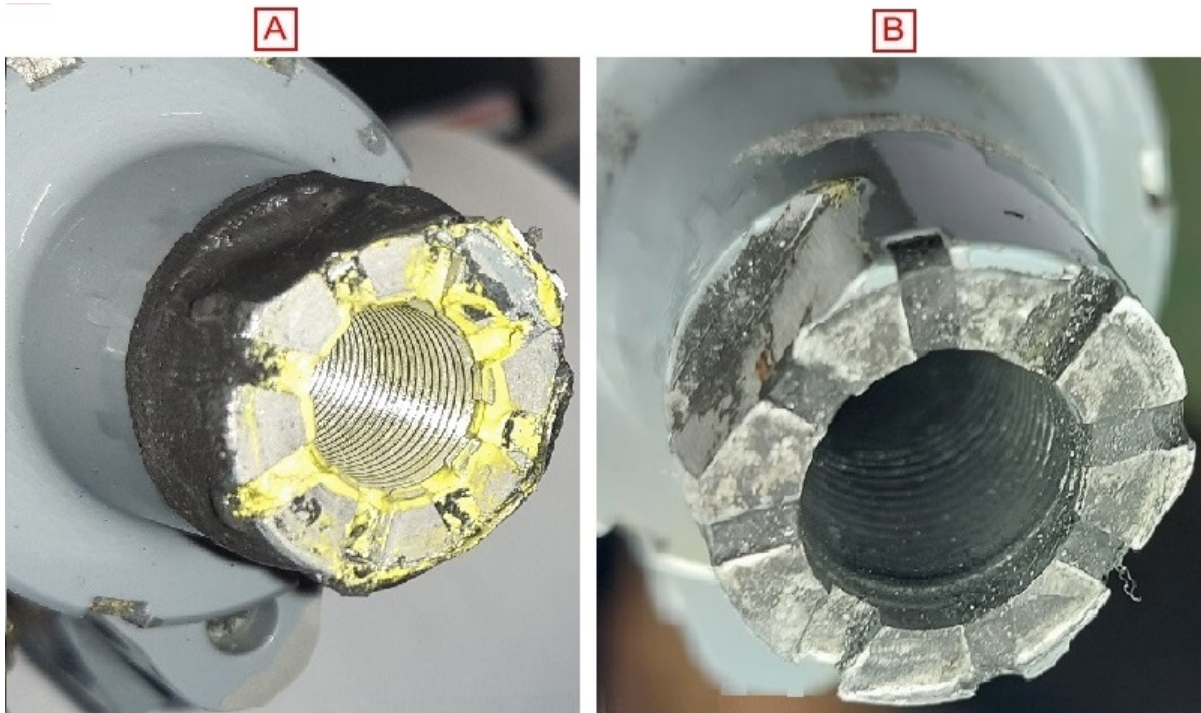

Figure 3
- Clean the threads on the inner surface of the upper end fitting of the Main rotor servo-control SC8037-1 (4) or Main rotor servo-control SC8037 (9) with Cleaning agent CM 208. Refer to Work Card Use of cleaning products on individual parts and on helicopters - Cleaning MTC 20-04-01-102
- 4.3.4.1. If there is oxidation, corrosion or damaged threads (Figure 3, Detail B), comply with paragraph 4.4.
- 4.3.4.2. If there is no oxidation, no corrosion and no damaged threads (Figure 3, Detail A), comply with paragraph 4.3.5.